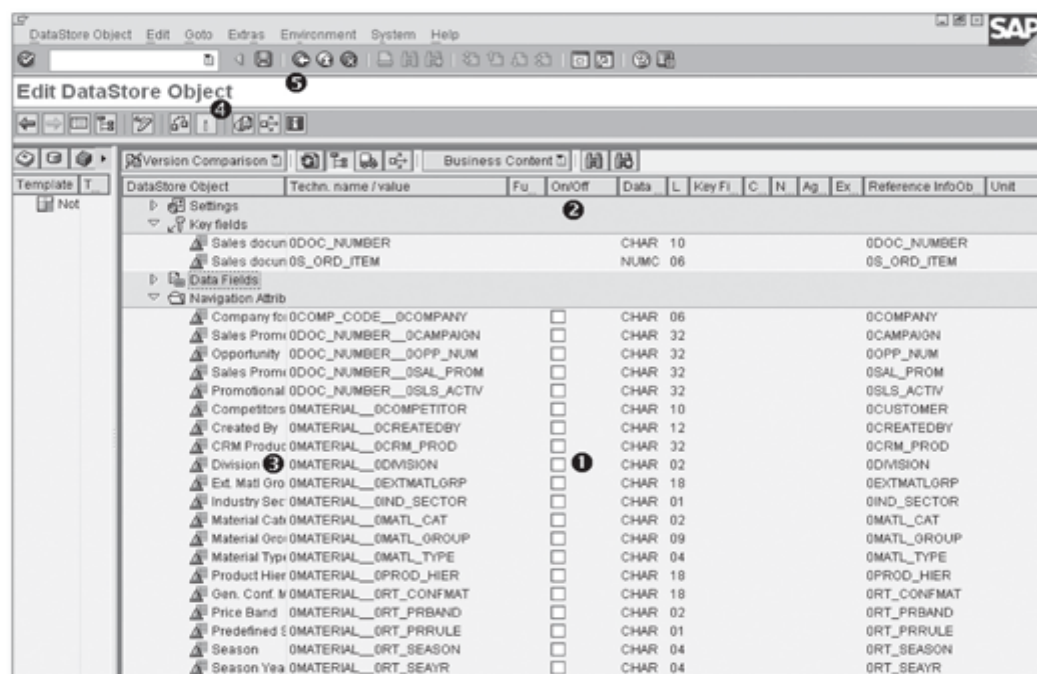
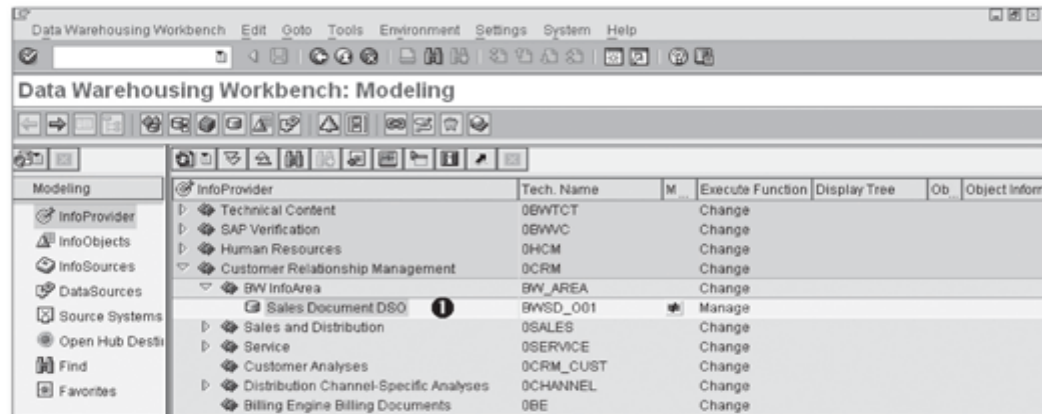

Figure 4.14 Edit DataStore: Navigation Attributes
Figure 4.15 DSO BWSD_001 Under InfoArea BW_AREA
Navigation attributes defined in the included InfoObjects are available for viewing under the Navigation Attrib column. They are included automatically, but you still need to confirm them by selection, as shown in ❶ of Figure 4.14.
The box in the On/Off column (refer to ❷ of Figure 4.14) indicates whether the navigation attribute is switched on (included) or off (excluded). SAP NetWeaver BW follows a standard naming convention for navigation attributes: NAME_OF_CHARACTERISTICS__NAME_OF_ATTRIBUTE. So, for example, the name OMATERIAL__ODIVISION indicates that ODIVISION is the navigation attribute of the OMATERIAL InfoObject (❸).
You can now activate the DSO using the Activate icon , as shown in ❹ of Figure 4.14. Activating the DSO creates the three tables we mentioned earlier: the Activation Queue, Active Data, and Change Log tables.
Return to the initial DWW screen by using the Back icon  (❶ of Figure 4.14). As you can see in ❶ of Figure 4.15, the newly created DSO BWSD_001 is available under InfoArea BW_AREA.